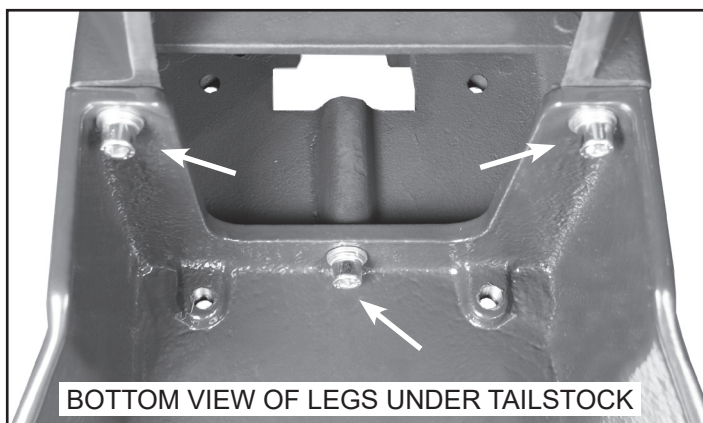

FIG. 6
4. Secure the lathe bed to the stand legs with the six Washers, Spring Lock Washers and Hex Head Bolts (I). Use the 8mm hex wrench provided. Figure 6 shows 3 bolts securing the legs to the tailstock end of the lathe bed.